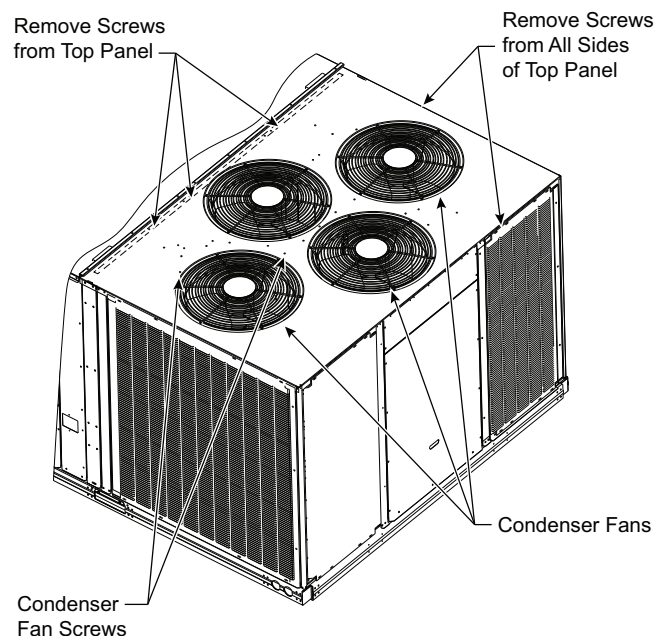

Fig. 20 — Location of Top Panel Screws and Coil Corner Post
2. Remove all screws from the top panel except the screws securing the condenser fan to the top panel. See Fig. 20.